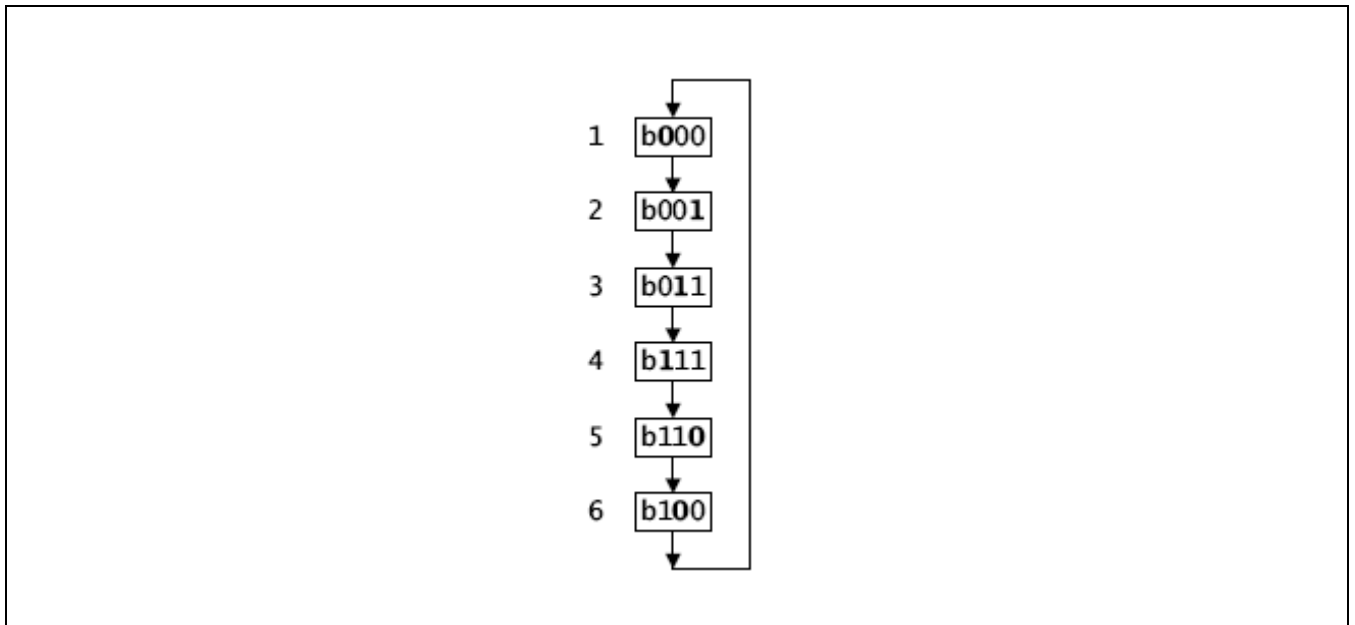

Figure 3.4-5 Example Gray Code Sequence of Length 6 for 3-Entry FIFO
- The second half of the sequence, positions N to $2N-1$, is found by taking the value at position $N-1$, inverting its most significant bit and then XORing that with each value in the first half of the sequence. The first value in the second half of the sequence is the fullness value for the sequence. Figure 3.4-5 shows a typical sequence of length 6.